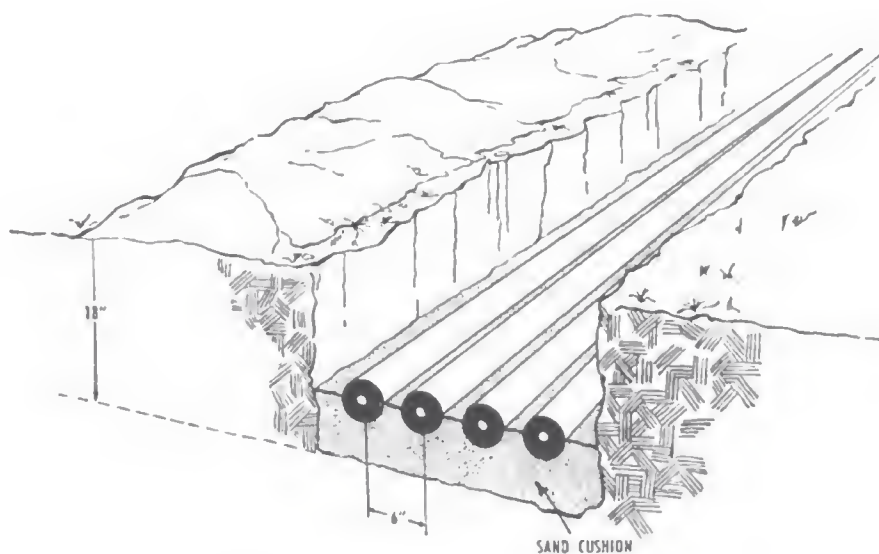

Figure 8-3.—Direct burial of cable
1. Dig the trench at least 18 inches deep to prevent disturbance of cable by subsequent surface digging (fig. 8-3).
2. Lay the cable over a sand cushion (fig. 8-3). If this is impractical, loosen the trench base so it is cleared of rocks and stones.
3. Uniformly separate the cables for further mechanical and electrical protection. About 6 inches between centers will be sufficient (fig. 8-3).